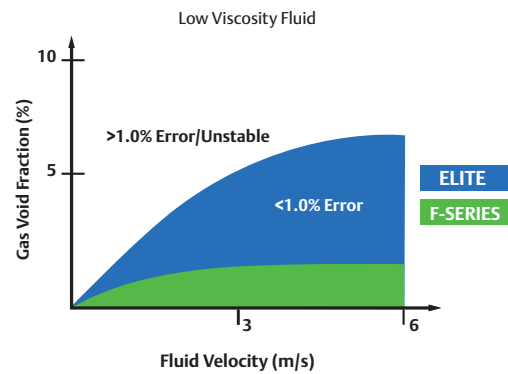

Figure 10. Laboratory operating conditions - water with air
- *Viscosity.* High-viscosity fluids tend to hold the bubbles in suspension better than low-viscosity fluids, and maintain their original position and distribution. In high-viscosity fluids bubbles are more likely to stay dispersed, while in low-viscosity fluids small bubbles may coalesce into large bubbles that are more likely to collect together. Figures 10 and 11 show performance expectations for low and high velocity fluids in the laboratory.